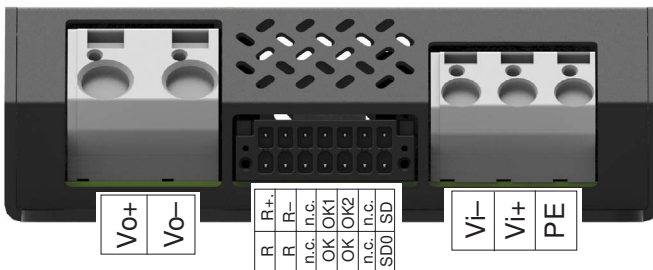

Fig. 13
- Auxiliary connector: Phoenix Contact 1713883; recommended wire section: 0.2 – 1.5 mm², 24 – 16 AWG; pin allocation see fig. 13.